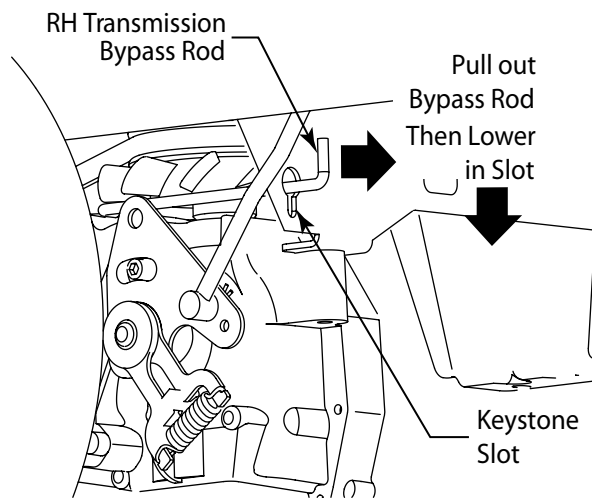

Figure 6-3
- From just in front of the two rear tires, locate the transmission bypass rods. Refer to Figure 6-3.